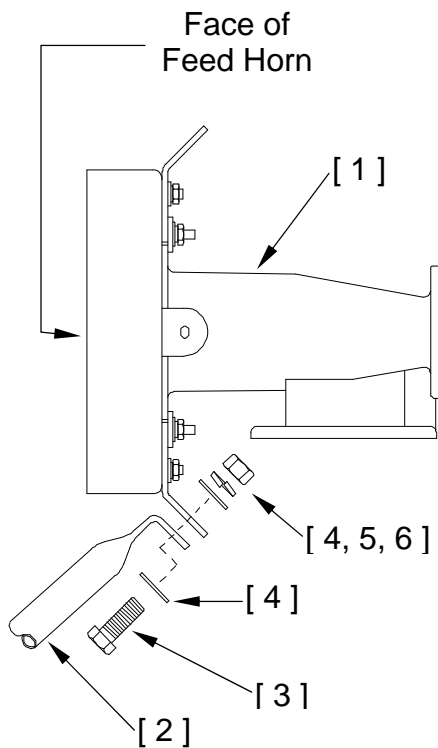

FIGURE 5.
- 1. FOCAL LENGTH** - As shown in figures 5 thru 7, attach the feed horn assembly to the three feed rods with the same 3/8" hardware as above. (For ku-band single pol only, insert the feed cover tab (item #7) between the feed horn and the 3/8" nut). Tighten the three bolts securely at this time. Check the focal length by measuring from the face of the feed horn to the reflector cover plate as shown in figure 8. If the focal length is incorrect, adjust the feed clevises in or out at the reflector surface as needed. Be sure that the clevises are adjusted equally. When the focal length is correct, tighten all feed support and clevis hardware securely. The focal length is 35.8 inches.